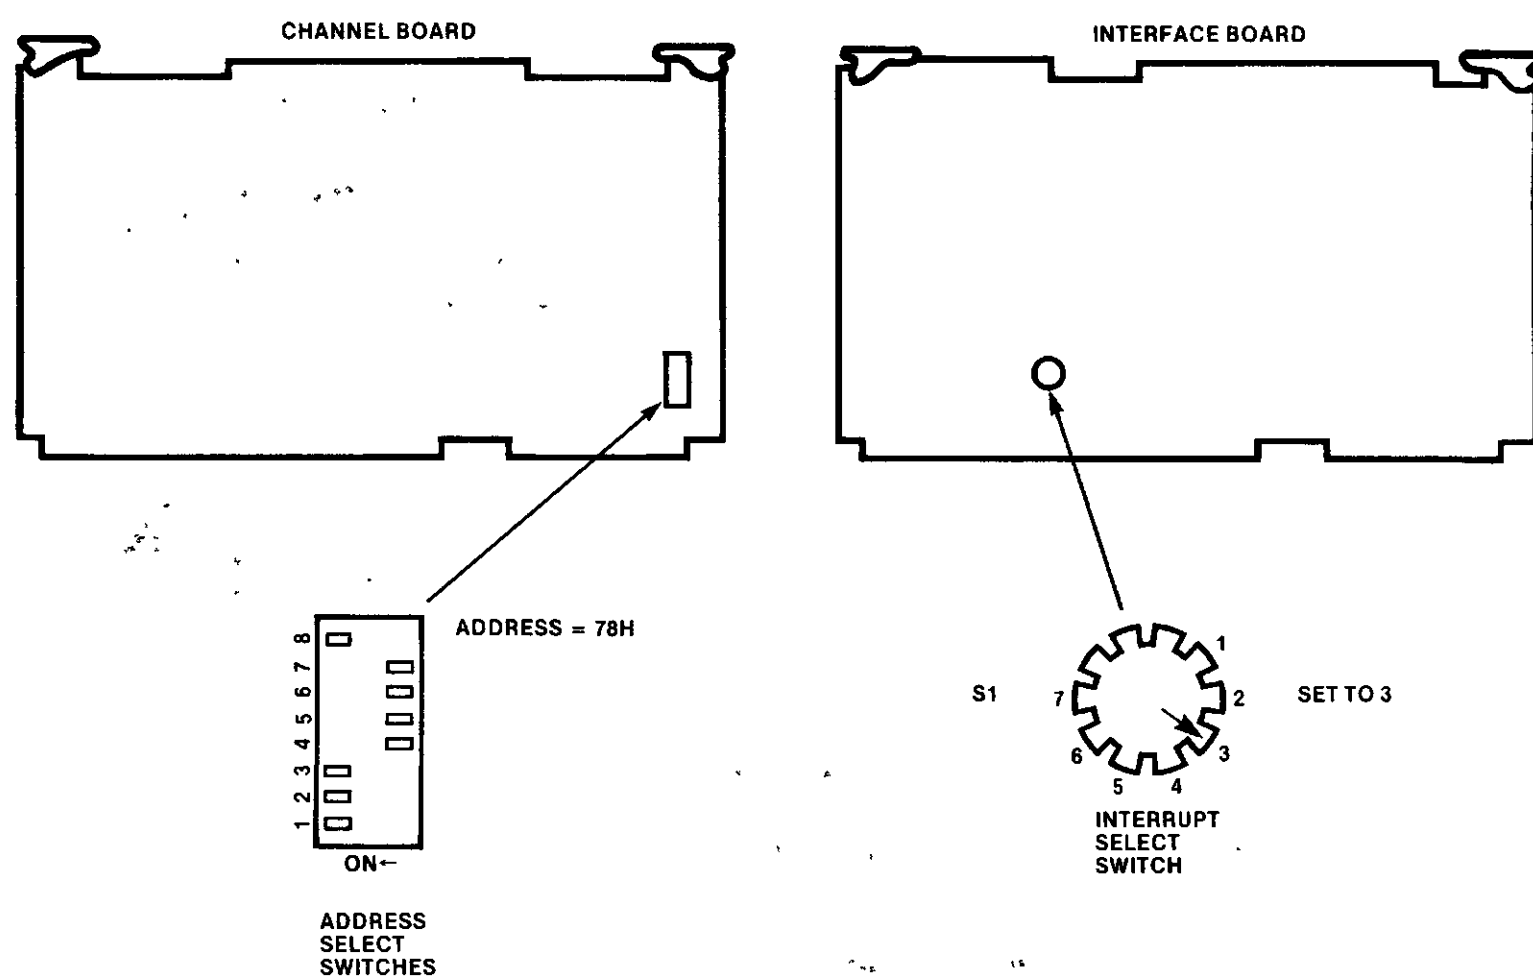

Figure 4-7. Channel Board and Interface Board Switch Settings
2. The DDDC includes two printed circuit boards: a channel board and an interface board. On channel board, set address select switches to 78H as shown in figure 4-7.